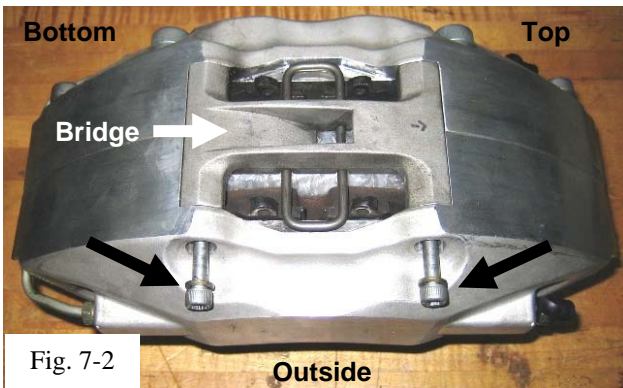

Fig. 7-2
- (e) Using a 5mm Allen wrench, remove the 2 bolts holding the caliper bridge in place (Fig. 7-2). Save these bolts.